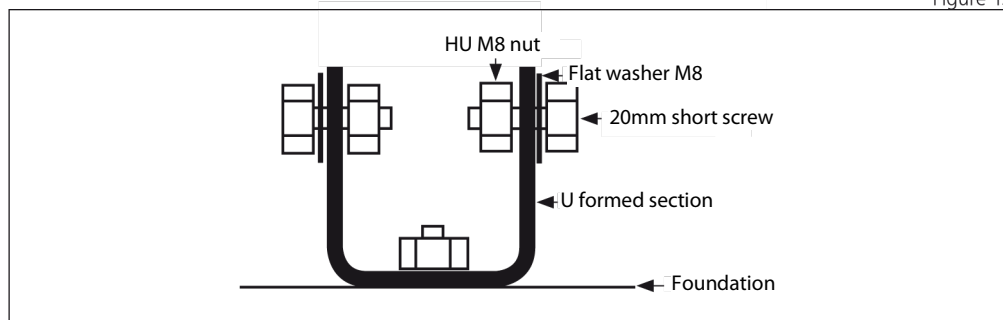

Figure 14
- Fit the two short screws (20mm) in the "Pole" holes of one of the wide U formed sections that you have already fitted to the foundations. You will need a nut and an M 8 mm dia plain washer for each screw. Figure 14 shows how to assemble the bolts.